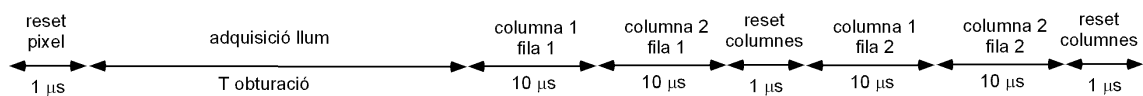

Fig. 1. Sequence of actions during the reading of a 4-pixel sensor.
Once this sequence of actions is completed, a new sequence immediately starts. Note that the total time of the sequence is $43 \mu s + T_{obturació}$. Also note that the sequence of events in Fig. 1 is not optimized. Some actions in the diagram could be done simultaneously, thus reducing the capture time (increased number of pictures/second). Optionally, the student may propose the optimization of the former sequence, demonstrating the correct functionality of the system.
- Calculate the variation in the capacitance voltage, ΔV_F , produced by the subthreshold current during a time equal to the reading phase in the sequence of Fig. 1.
14.- Draw a chronogram showing the evolution of the control signals of the 4-pixel analog sensor in order to complete a sequence like that depicted in Fig. 1. (Note that the light levels are not control signals, but input variables of the system).
1.- Obtain the I(V) characteristic curves of the photodiode, for following values of the photogenerated current `Ilum`: 100 nA; 30 nA; 10 nA; 3 nA; and 1 nA. Measure the open circuit voltage V_{D_OC} obtained in each case. Verify that the characteristic curves match the expected behavior.
2.- Create the schematic of an Active Pixel Sensor (APS), including at this moment only the photodiode, capacitor C, and transistors M1 and M2. Create a test bench and simulate successive reset and open shutter cycles (two first phases in Fig. 1) and verify the correct functionality. Report the voltage values in the capacitor after each cycle, for different values of `Ilum`, and verify the linearity of the capacitor voltage respect to `Ilum`. Use the cells `cpoly`, `nmos4`, `pmos4` from the `PRIMLIB` library.